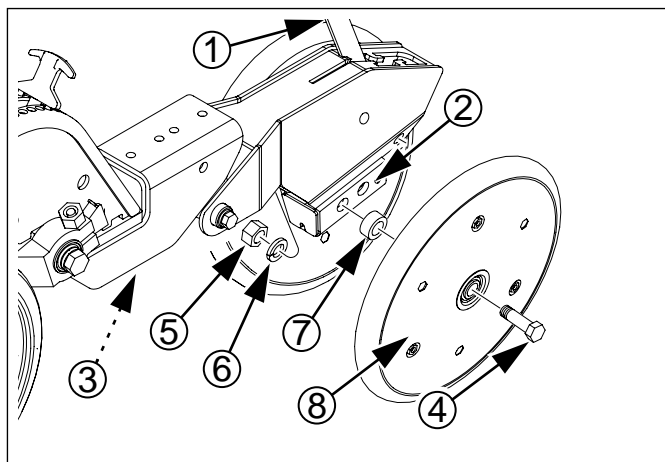

Figure 75
**Refer to Figure 75**
2. Remove the bolt ④, nut ⑤ and lock-washer ⑥ for the left press wheel ⑧.
3. Move the spacer ⑦ and wheel ⑧ to the forward of the two mounting holes at ②.